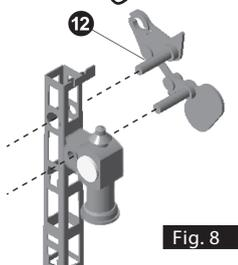

Fig. 8
12. Now the pre-assembled positioning mechanism can be inserted carefully into the matching holes at the back of the signal mast and of the lantern. The pin at the lantern-screen has to be pushed into the lantern's hole [Fig. 8]. The other pin belongs to the hole in the signal mast.